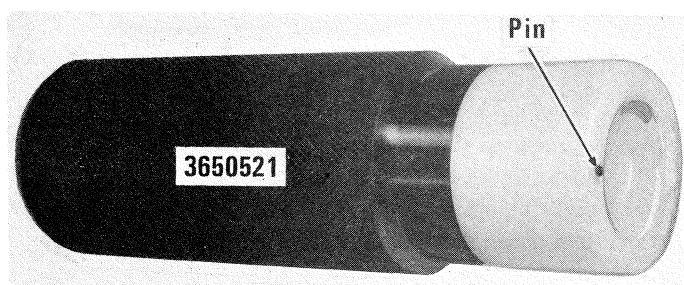
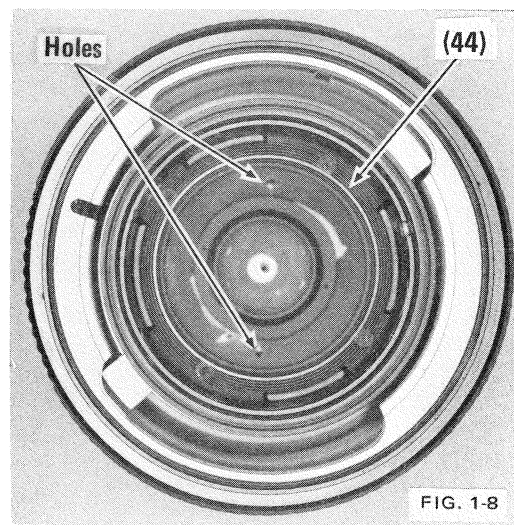

FIG. 1-7
FIG. 1-8
The third lens group is threaded into slide housing (44). The pin on the rim of Tool No. 3650522 (Fig. 1-7) fits into one of the two holes in the third lens group housing, Fig. 1-8.